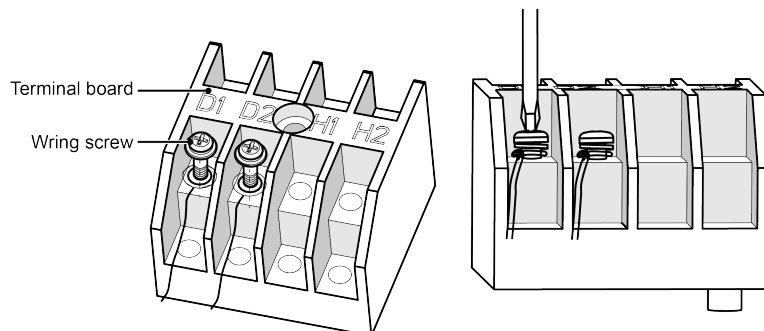
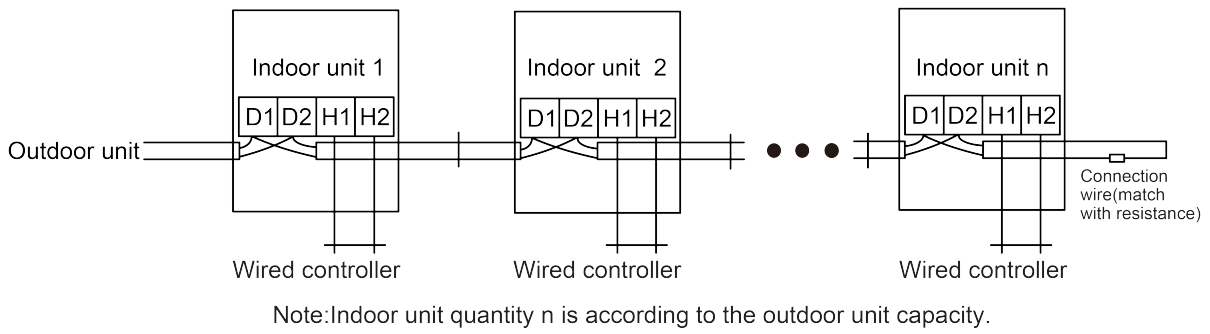

Fig 5.3.1
Fig 5.3.2
- (1) Detach the electric box lid.
- (2) Let the Communication cable pass through the wiring through-holes.
- (3) Connect the communication wire to terminal D1 and D2 of indoor 4-bit wiring board, as shown in Fig 5.3.1.
- (4) Fix the communication cable with clamp of electric box.
- (5) For more reliable communication, make sure connect the terminal resistor to the most downstream IDU of the communication bus (terminal D1 and D2), as shown in Fig 5.3.2, terminal resistor is provided with each ODU.